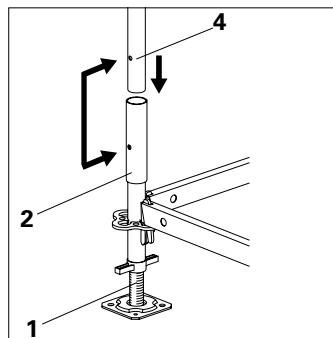

Fig. A2.07
1. Insert Standard UVR (**4**) into the Base Standard UVB 24 (**2**). (Fig. A2.07)
2. Align the insert holes with each other. (Fig. A2.07)